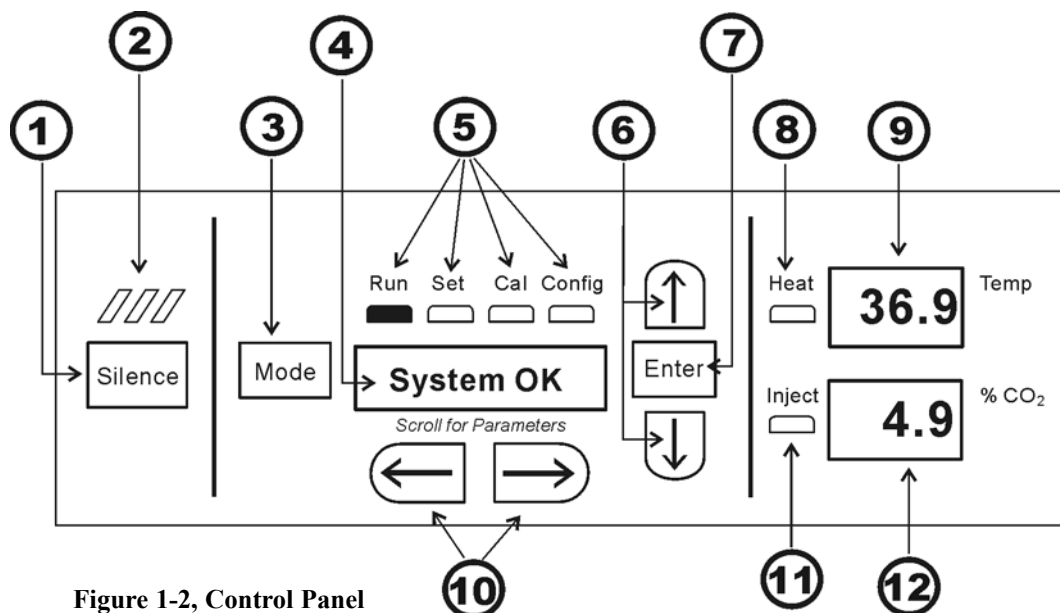

Figure 1-2, Control Panel
- Control Panel - Keypad, Displays and indicators (See Figure 1-2)
1.2 Control Panel Keys, Displays and Indicators (See Figure 1-2)